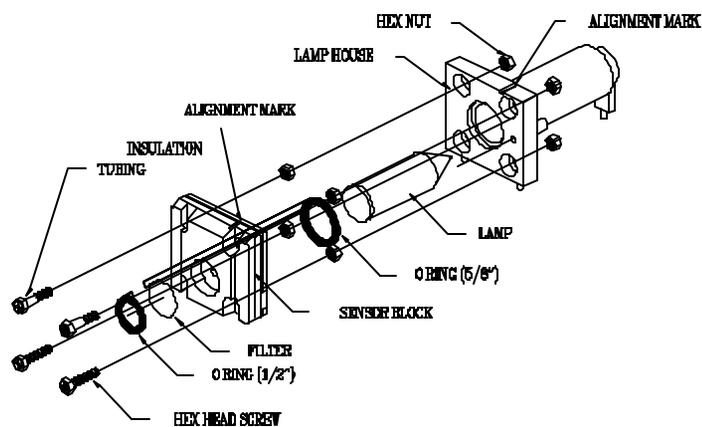

Figure 8.2 Disassembly and Assembly of Sensor Module of Professional PID Unit
The sensor module is made of four major components, as shown in Figure 8.2:
3. Refer to Figure 8.2, and carefully remove 4 hex nuts from the back of the lamp house. Remove the lamp and O-ring. Also remove the membrane filter and small O-ring which are held together inside the round hole on the front cover.
7. Refer to Figure 8.2, insert the lamp into the large O-ring first. Then push the lamp and O-ring into the lamp house, attach the cleaned sensor block to the lamp house by 4 hex nuts. Make sure that the 4 inner hex nuts are tight before putting on the 4 outer hex nuts. Note: tighten these nuts by hand using a nut driver while using a screw driver on the front to hold the screw in place. Do not over tighten these hex nuts because the soft Teflon parts can be damaged easily.